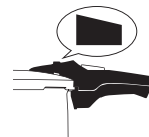

Fig. 13
2. When the pressure indicator is in the initial position and the pin is no longer visible, all the pressure has been released from the pressure cooker and you can open it (Fig. 13).